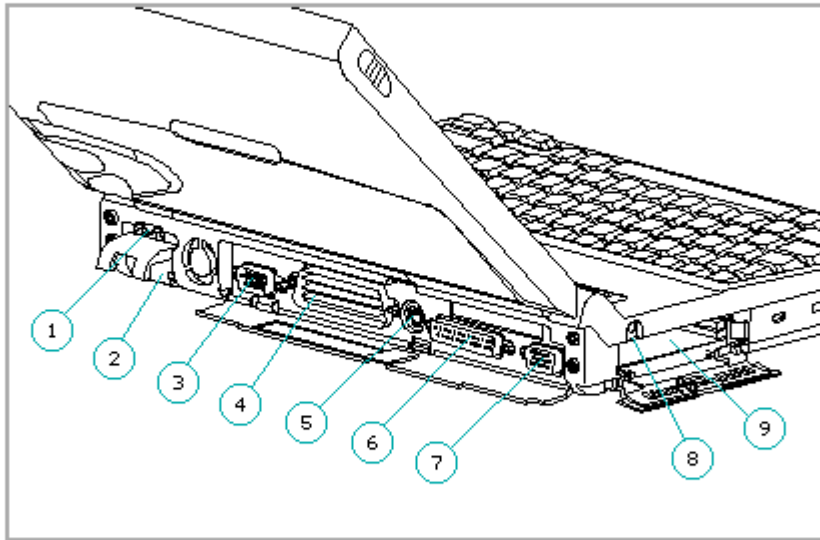

Figure 1-4. I/O Connectors
This section covers the I/O pass-through connectors on the computer (Figure 1-4). Refer to Appendix A for connector pin assignments.
- o External input/output (I/O) connectors (Figure 1-4)